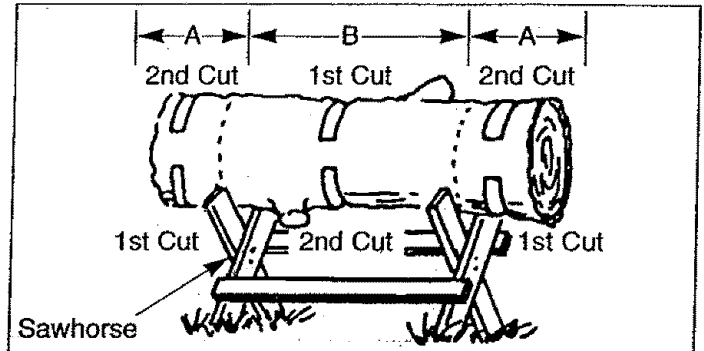

Figure 15
**BUCKING USING A SUPPORT (Fig. 15 & 16)**